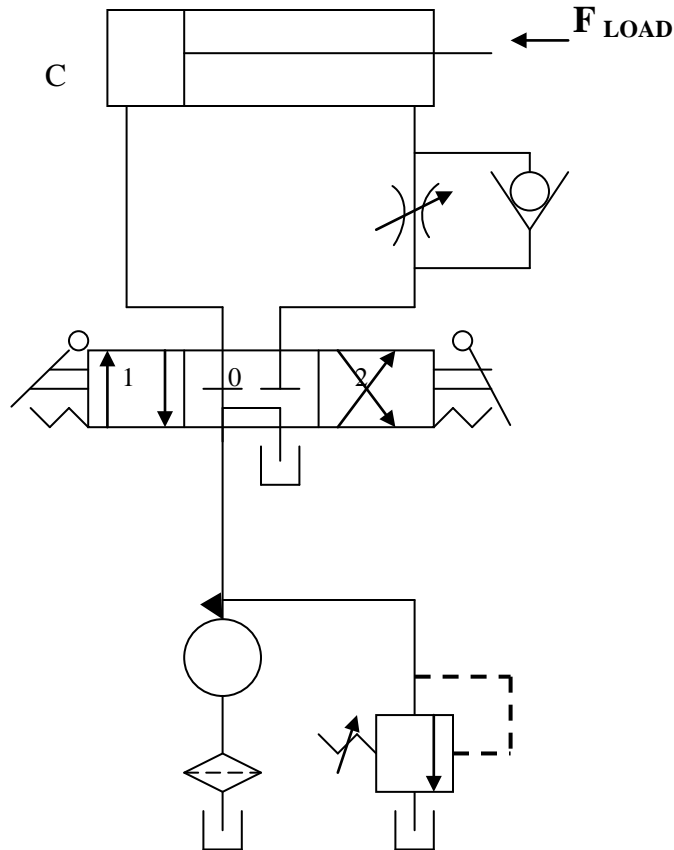

Fig 5.17. **Meter – out Circuit.**
2. **Meter – out Circuit** : In this type of speed control, the flow control valve is placed between the actuator and the tank . Thereby, it controls the amount of fluid going out of the actuator. Fig 5.17 shows a meter-out circuit.